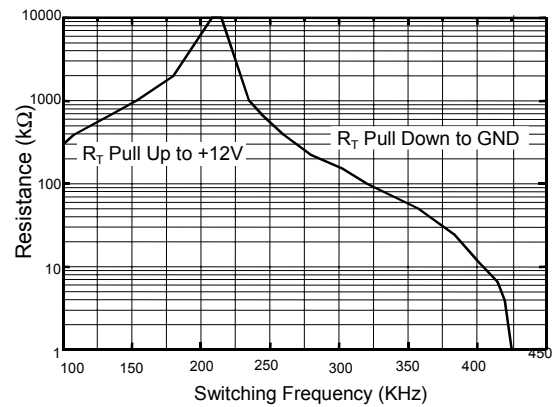

FIG. 3 RT Resistance VS. Frequency
**Pin 10: RT:** Frequency adjustment pin. Connecting a resistor (RT) from this pin to GND, increasing the frequency. Connecting a resistor (RT) from this pin to VCC, decreasing the frequency by the following figure (Fig.3).